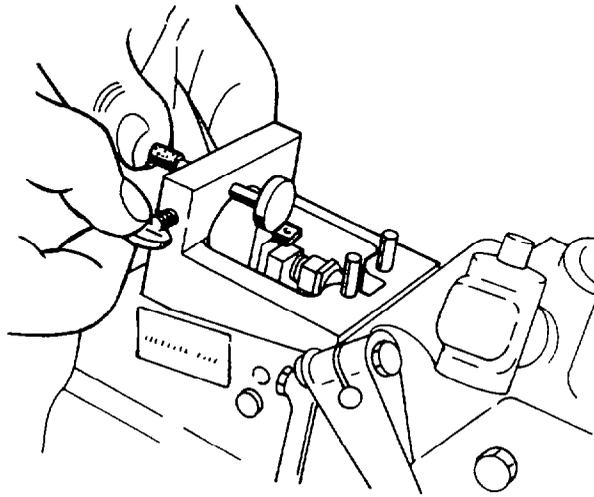

Fig. 123 — Footed Pin Touching Upper Vertical Face of the Stop Plate
- o. Check the "K" dimension (this is the horizontal dimension from the upper vertical face of the stop plate to the inner machined vertical surface of the governor housing), with tool TSE 79100 as shown in fig. 123.